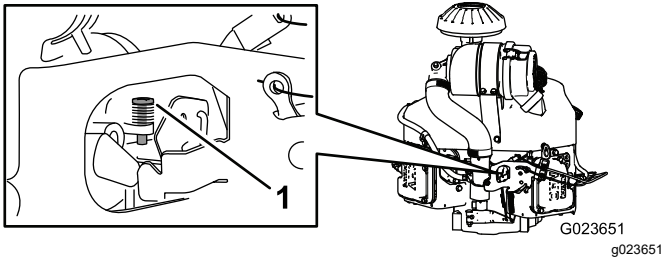

Figure 66
4. Adjust the stop screw on the carburetor (Figure 66) so that the idle speed is 1350 to 1550 rpm.